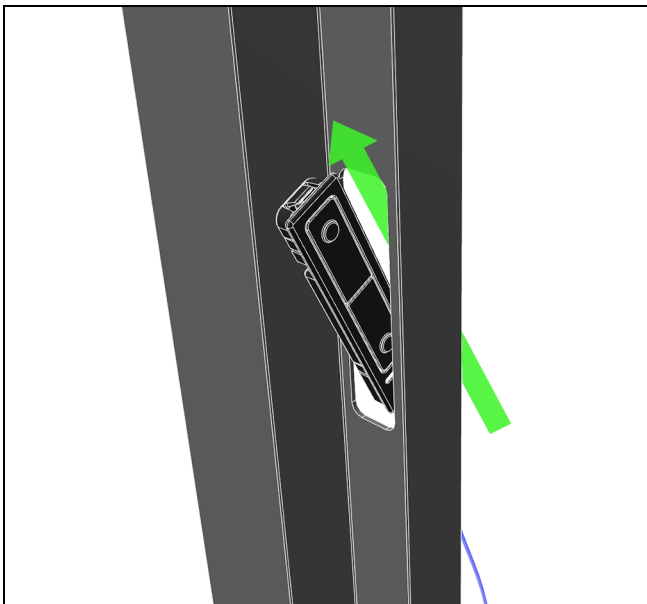
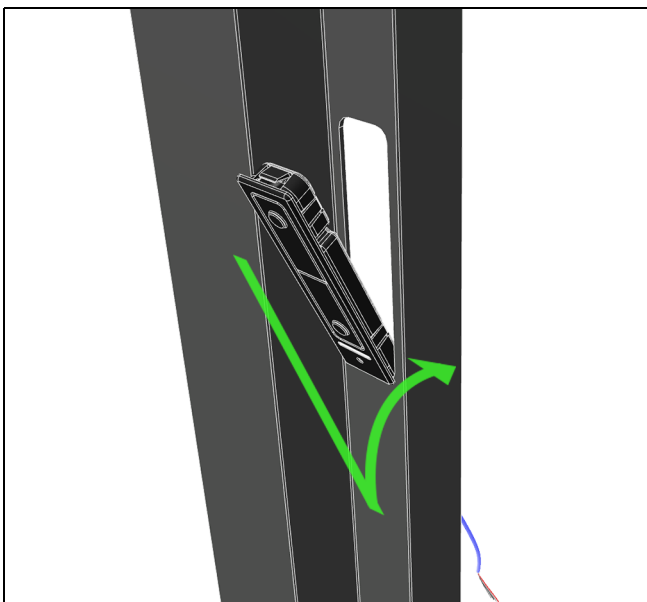

Figure 45
Figure 46
2.A. On automated jamb covers with the on-window switch, pull the switch through the back of the cover sideways, then turn, and snap into place. See Figure 45 and Figure 46.